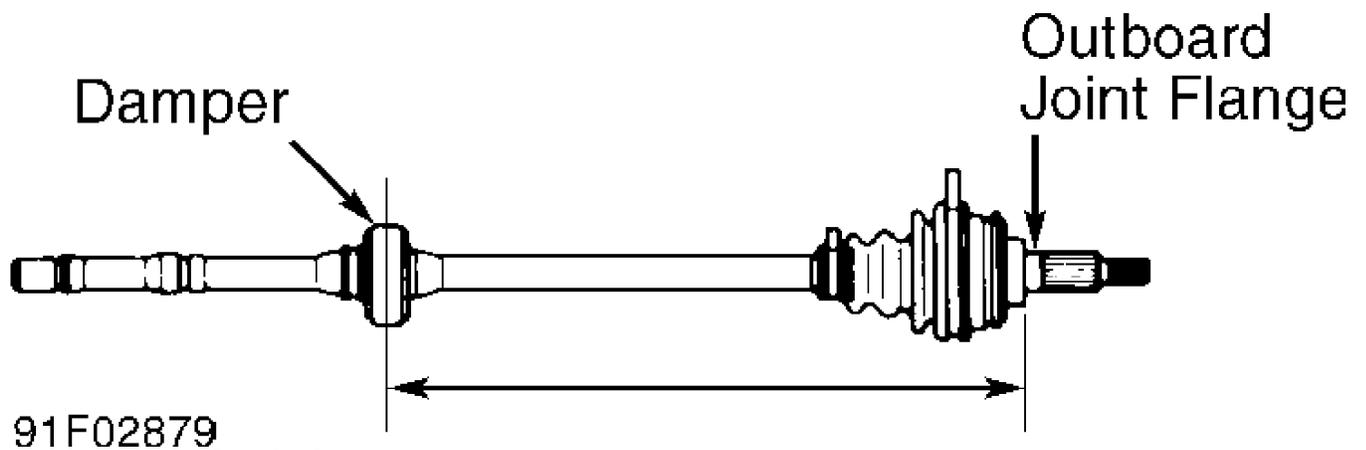

Fig. 4: Locating Axle Shaft Damper
2) Clearance between dust cover and bearing should be .04-.08" (1-2 mm). On 4A-FE, locate damper on right axle shaft. See Fig. 4. On A/T models, distance should be 15.15" (384.7 mm). On M/T models, distance should be 16.99" (431.6 mm).